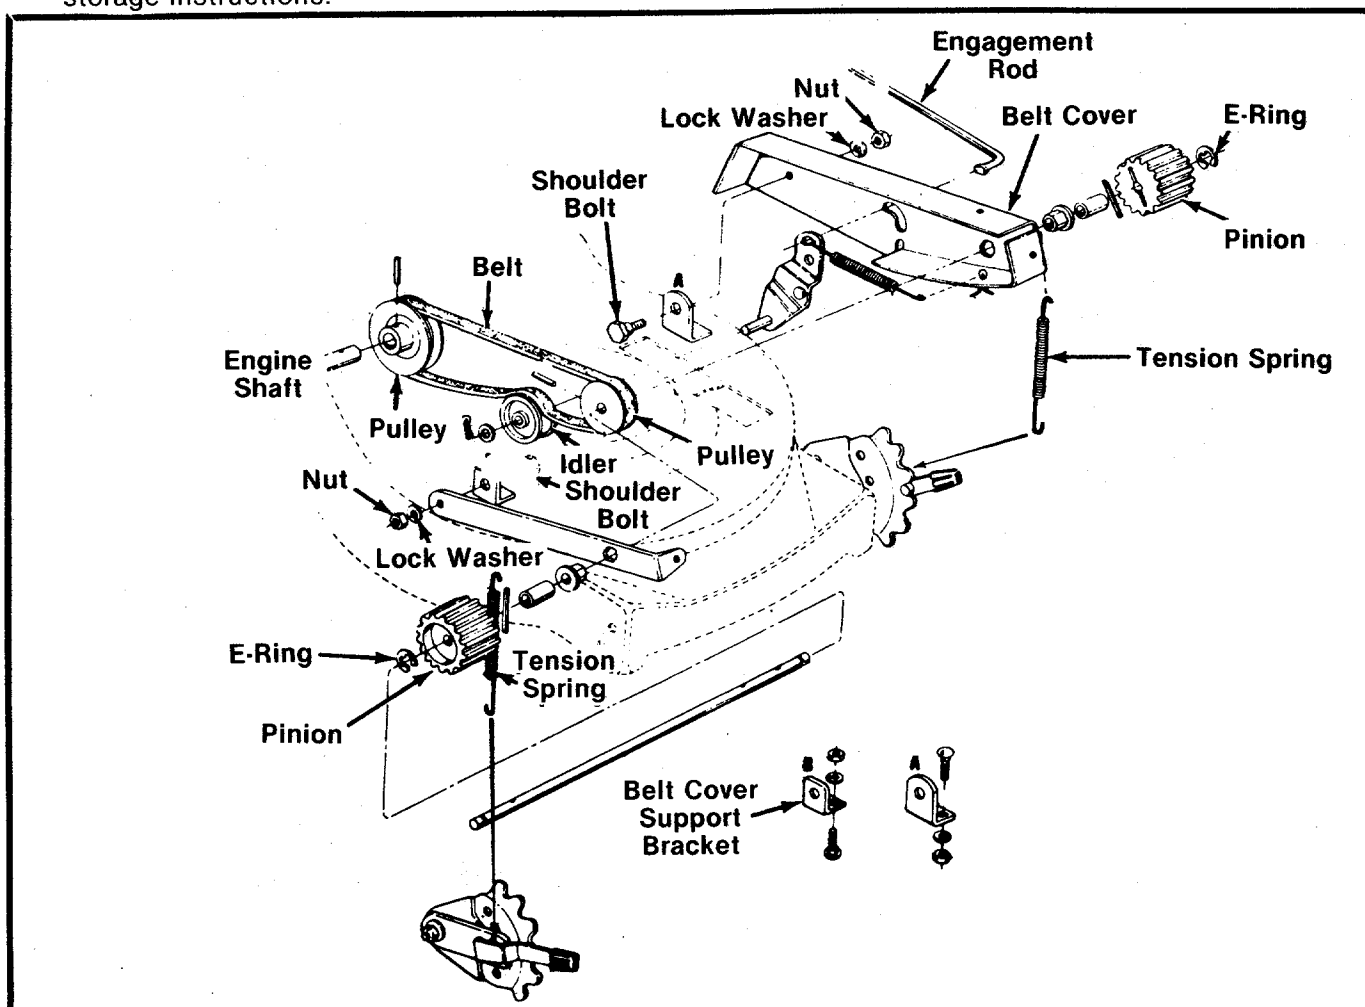

FIGURE 23.
2. Remove both tension springs. See figure 23.